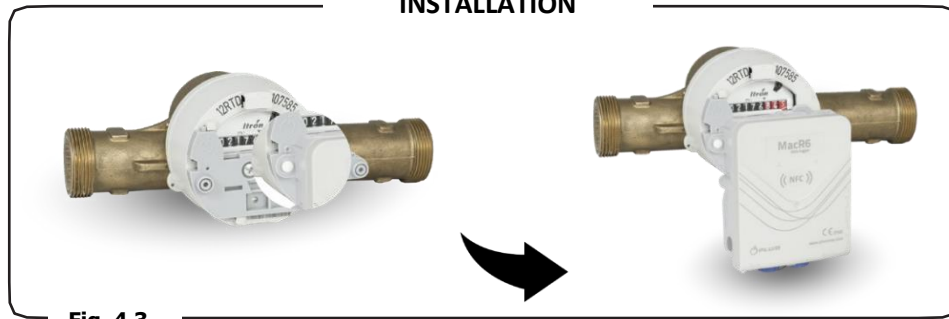

Fig. 4.3.
- 4.3. Install MacR6 N on the adapter using 2 plastic tack rivets (Fig. 4.3.).